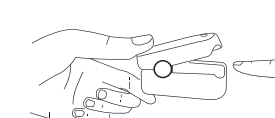

Figure 5
- After properly installing two AAA batteries, press lid's press sign as shown in **Figure 5** and open the clip. Let the testee's finger put into the rubber cushions of the clip, make sure the finger is in the right position as shown in **Figure 5**, and then loosen the clip.